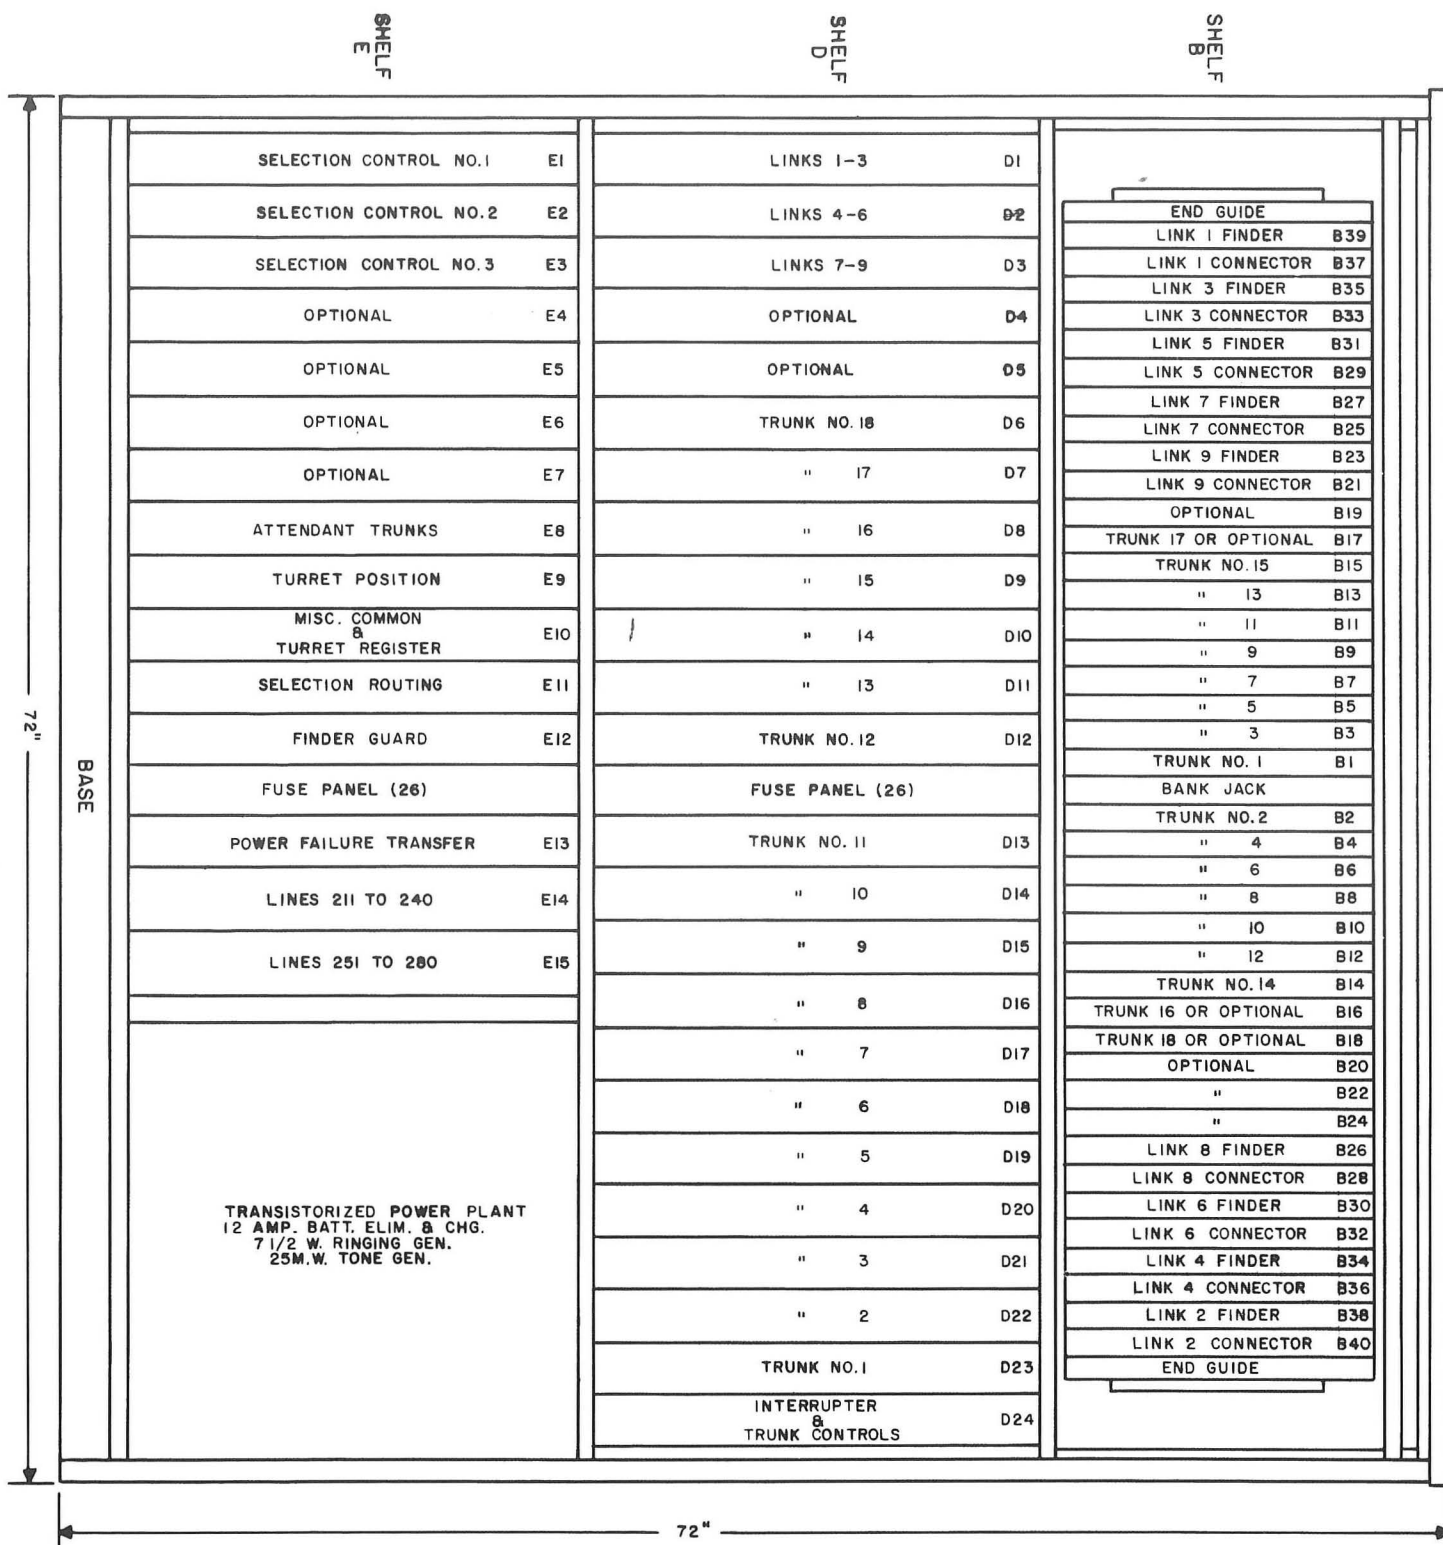

Figure 6. Mounting arrangements for Type 80 P-A-B-X.
- The three shelves shown in figure 6 are designated B, D, and E. Shelf B contains the crosspoint switch shell which is capable of housing 40 switches and provides 100 bank outlets. The 40 switch positions within
the crosspoint switch are designated B1 through B40. The crosspoint switch shell in figure 6 contains 9 finder and 9 connector switches, 18 trunk switches, and 4 optional switch positions. The amount of finder and connector switches required depends upon the amount of links supplied. Each link requires one finder and one connector switch, these are always mounted side by side. The amount of trunk switches required depends upon the number of city trunks supplied; each city trunk requires 1 trunk switch. The 4 optional positions can be used to house the switches required by the optional equipment listed in Table D.
- Shelf D contains 24 jack-in relay bar positions, designated D1 through D24 (figure 6). Positions D1, D2, and D3 are occupied by the three link circuit relay bars, each link relay bar containing relay equipment for three link circuits. Position D4 can be occupied either by the link circuit relay bar containing links 10 through 12 or by city trunk No. 20. If neither of these two relay bars are provided, this position can be used as an optional position. Position D5 is occupied by city trunk No. 19 if provided. If trunk No. 19 is not provided, this can be used as an optional position. Positions D6 through D23 are occupied by city trunks No. 1 through No. 18. If less than 18 city trunks are provided, unused
- c. Shelf E contains 12 jack-in positions designated E1 through E12 (figure 6). Positions E13, E14, and E15 house the line equipment and power failure transfer circuits, these circuits are mounted on relay strips, not relay bars. Positions E13, E14, and E15 are not considered relay bar positions. Positions E1, E2, and E3 are occupied by the three selection control circuits. A selection control circuit must be provided for each link relay bar supplied. Position E4 is occupied by selection control circuit No. 4, when links 10 through 12 are provided. When links 10 through 12 are not provided, E4 can be used as an optional position. Positions E5, E6, and E7 are optional positions. Positions E8 (4 attendant's trunks), and E9 (attendant's turret), are associated with the attendant's turret and can be used as optional positions if the attendant's turret is not supplied. Position E10 is occupied by the miscellaneous common and turret register circuit. The miscellaneous common equipment need be provided only if the attendant's turret is not supplied. Position E11 is occupied by the selection routing circuit. Position E12 is occupied by the finder guard circuit. Position E13 is occupied by the power failure transfer circuit. Positions E14 and E15 are occupied by the line equipment relay strips. Each local line is served by an individual line, and cut-off relay which is mounted on the line equipment
As in the case of the Type 40 P-A-B-X, the three factors determining the over-all equipment capacity of the Type 80 P-A-B-X are the total bank outlets provided, switch positions, and relay bar positions available. The Type 80 P-A-B-X provides 100 bank outlets, 40 switch positions, and 36 relay bar positions. The Type 80 P-A-B-X shown in figure 6 contains the standard equipment, including the equipment associated with the attendant's turret and provides up to 79 local lines, 1 attendant's P-A-X line, 18 city trunks, and 3 attendant's information trunks. Table C lists the bank outlets, switch positions, and relay bar positions utilized by this standard equipment.